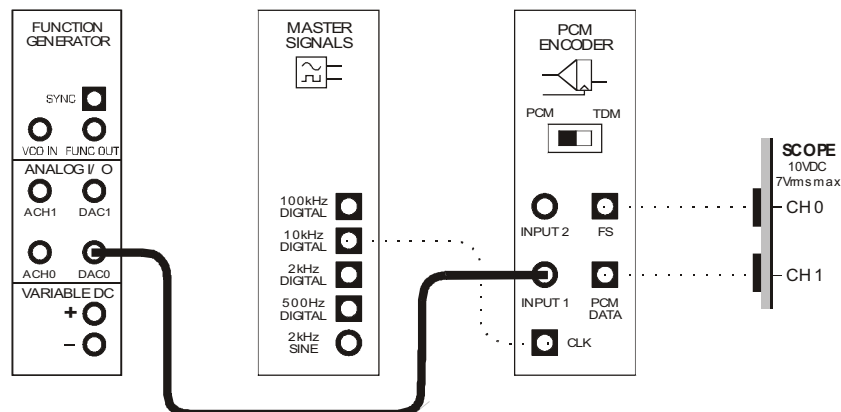

Figure 7
22. Modify the set-up as shown in Figure 7 below.